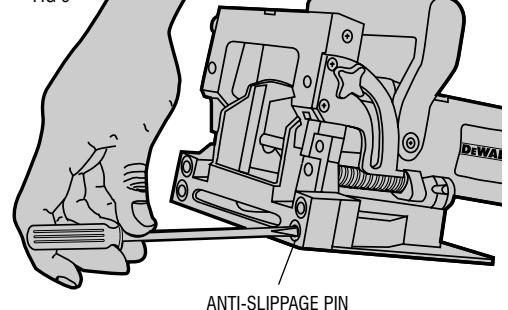

FIG 10
A. Adjustable Direction Elbow (See Figure 10)